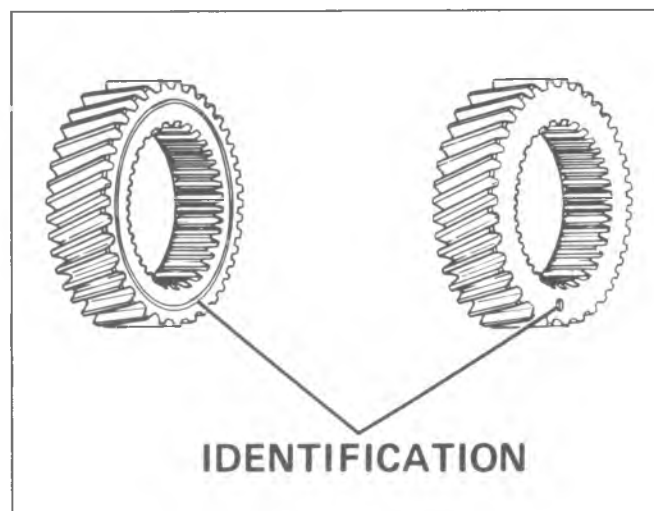

Fig. 7A-87A--Front Sun Gear Identification
3. Install front sun gear face with the identification mark (a drill spot or groove) against input drum to rear sun gear snap ring (Fig. 7A-87A and 7A-88A).
5. Install front sun gear to front carrier thrust bearing and race assembly with roller thrust bearing against the front sun gear (Fig. 7A-89A).